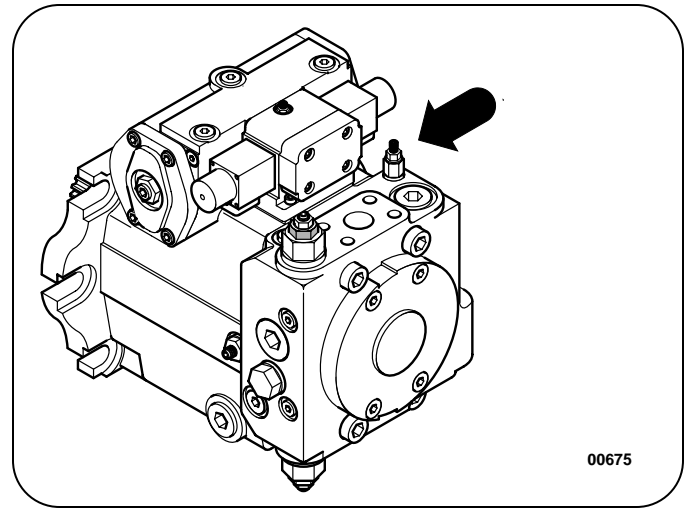

Figure 12: Wheel Drive PCO Relief
7. Locate the PCO relief on the wheel drive pump. See Figure 12.